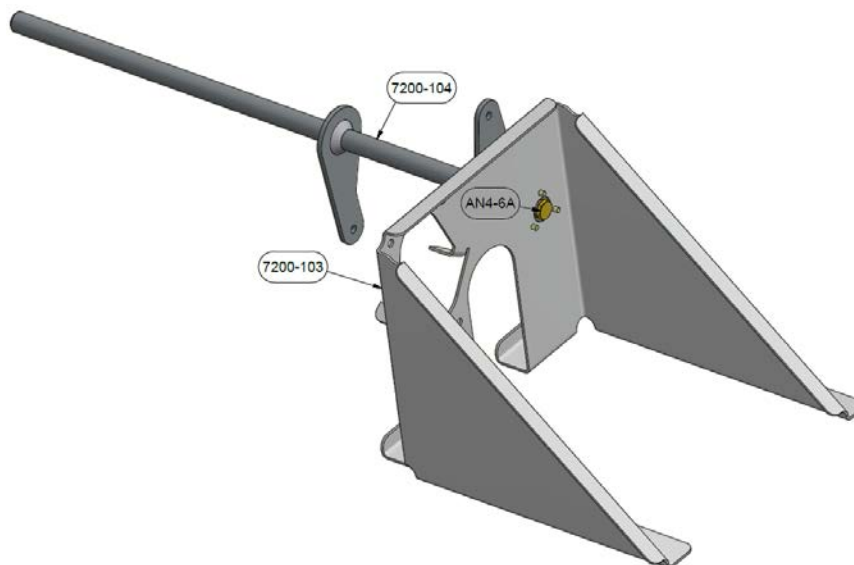

Figure 2-4
- 1.7. Secure the PA-28 bellcrank (P/N 7200-104) to the PA-28 pitch bracket assembly (P/N 7200-103) with an AN4-6 as shown in Figure 2-4. Note that the end of the bellcrank connected to the pitch bracket assembly has an arm close to the end. Hand tighten AN4-6 bolt as it will be removed prior to final fitting.